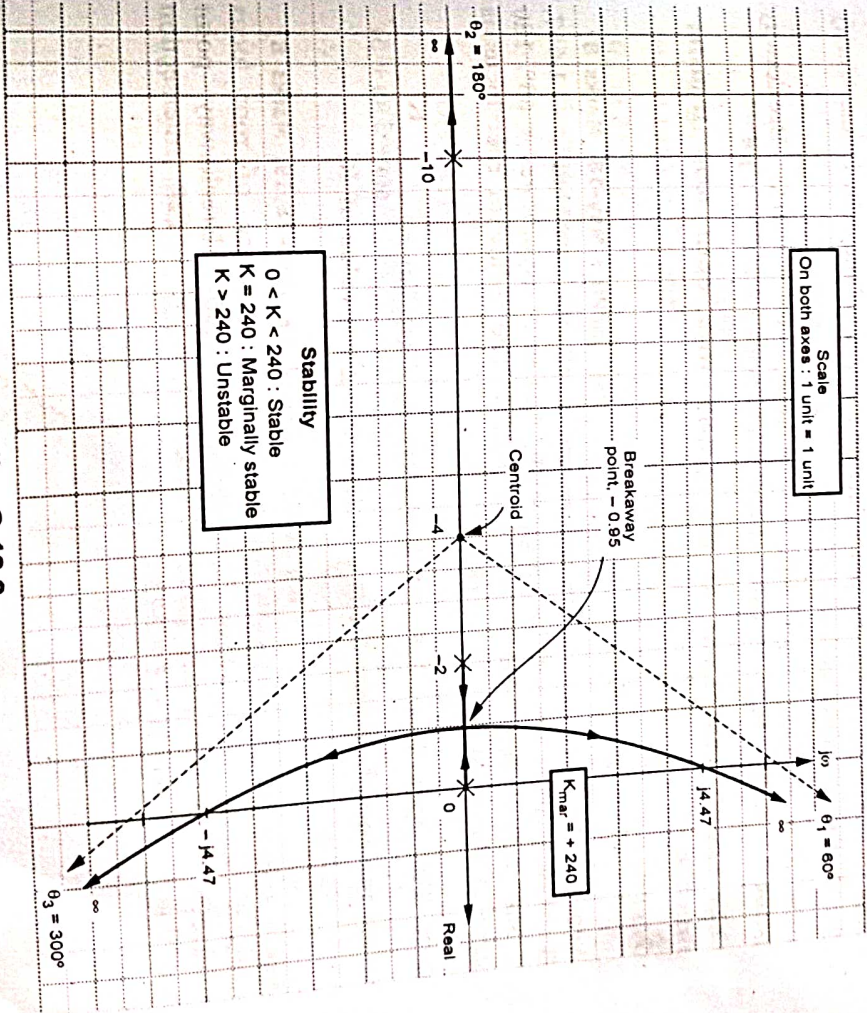

Fig. Q.18.2
Step 8 : The complete root locus is shown in the Fig. Q.18.2.
Ans.: Refer Q.18 for the procedure and verify that centroid = -1.667, Breakaway point  $s = -0.784$ ,  $K_{mar} = 30$ , Angles of asymptotes =  $60^\circ$ ,  $180^\circ$ ,  $300^\circ$  Intersection with  $j\omega$  axis =  $\pm j 2.45$ . The nature of root locus is same as shown in the Fig. Q.18.2.